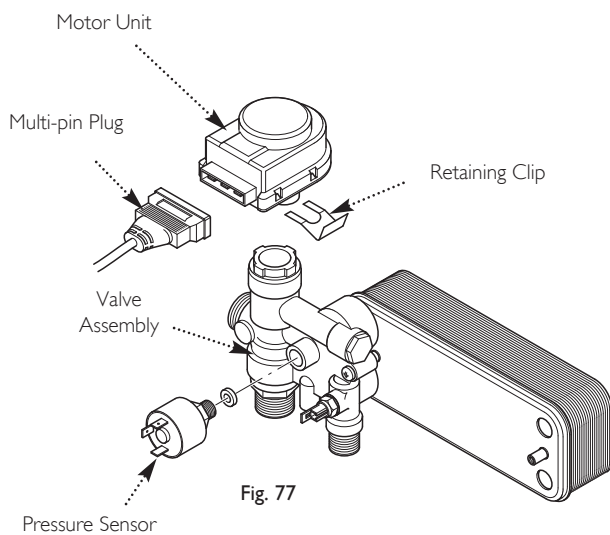

Fig. 77
13.21 Diverter Valve - Motor Unit & Assembly (Fig. 77)